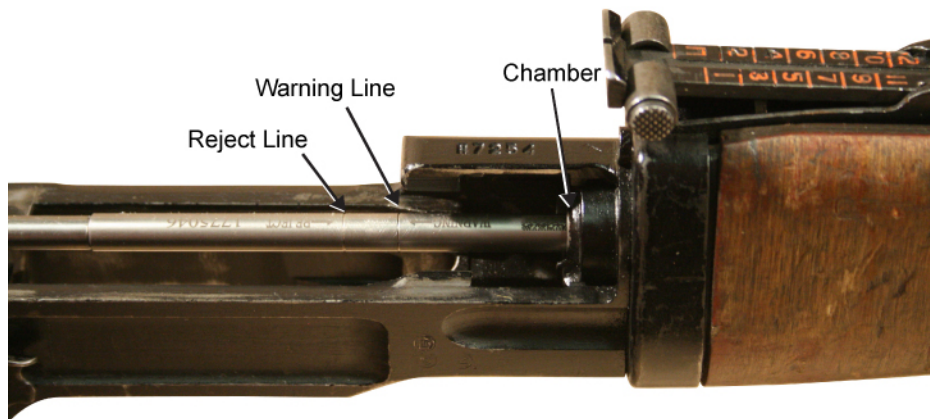

Figure 12. Bore Erosion Gage Warning Line, Reject Line, and Chamber.
2. The first line of the bore erosion gage is the warning line. If the warning line on the bore erosion gage enters the chamber, more frequent gaging should be conducted. Refer to Figure 12.
3. The second line of the bore erosion gage is the reject line. If the reject line of the bore erosion gage enters the chamber, the barrel is defective and the weapon needs to be replaced. Refer to Figure 12.